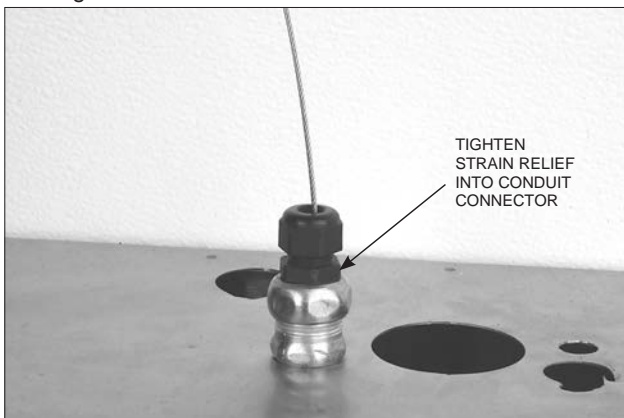

FIGURE 5-58
- 7. Tighten the body of the strain relief to the conduit connector. See Figure 5-58.